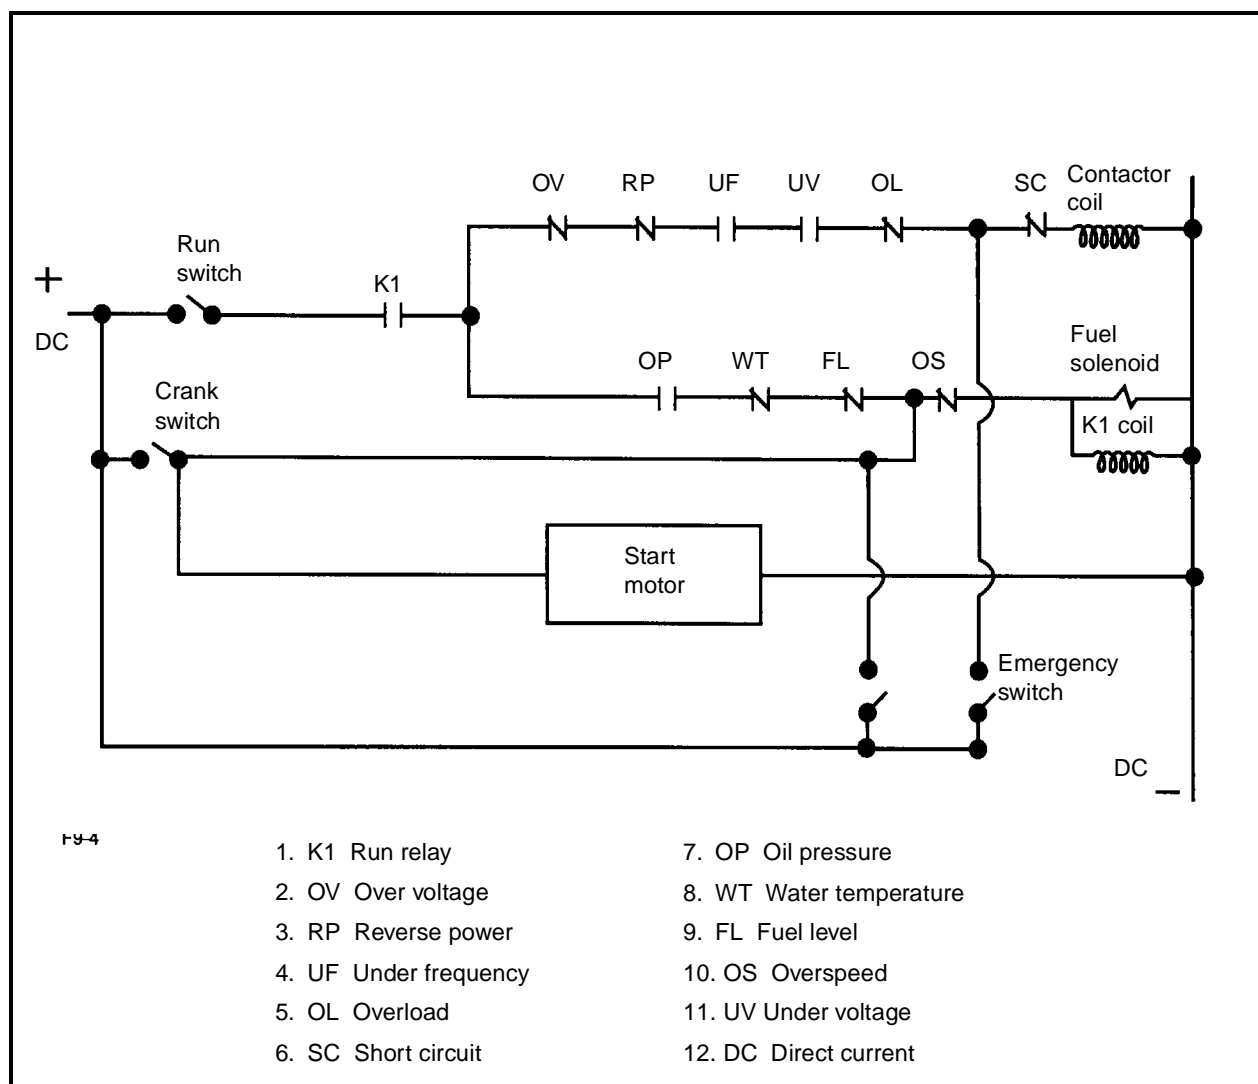

Figure 9-4. Practical wiring diagram of a safety control system
Most generator sets have a safety-control system similar to the one in *Figure 9-4, page 9-4*. The system consists of relays, overspeed safety devices, and pressure-temperature controls. The generator shuts down when a safety device actuates. Safety devices stop the engine or trip the circuit breaker in cases of overspeeding, low fuel level, low oil pressure, or high coolant temperature. The *low oil-pressure indicator* (8) illuminates when the oil pressure drops enough to actuate the low oil-pressure safety device.